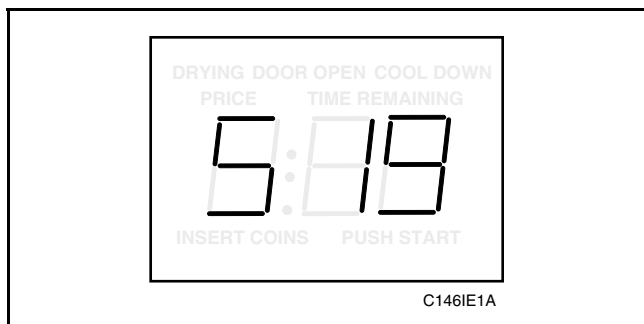

Figure 16
2. While pressing and holding the HIGH TEMP pad with one hand, press the MED TEMP pad with the other hand. Programmable option number 1, (Audio Signal “SIg”), will appear in the VFD, *Figure 16*.